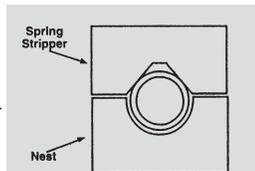

Figure 1
The first two problems, tube deformation and punch point chipping, are typically caused by tube movement. A nesting die can be used to reduce this movement. The ideal nest should be a radius pocket that is machined a few thousandths of an inch larger than the outside diameter (OD) of the tubing (see Figure 1). This will help locate the tube and offer some lateral support.
In addition to proper nesting, it is equally important to lock the tube into position using a "V" groove in a spring stripper (see Figure 1). A "V" groove with a 60- to 80-degree included angle will prevent tube rolling and offer additional lateral support. Without this die and stripper support, the tube will be deformed while the hole size will be inconsistent and out-of-round.